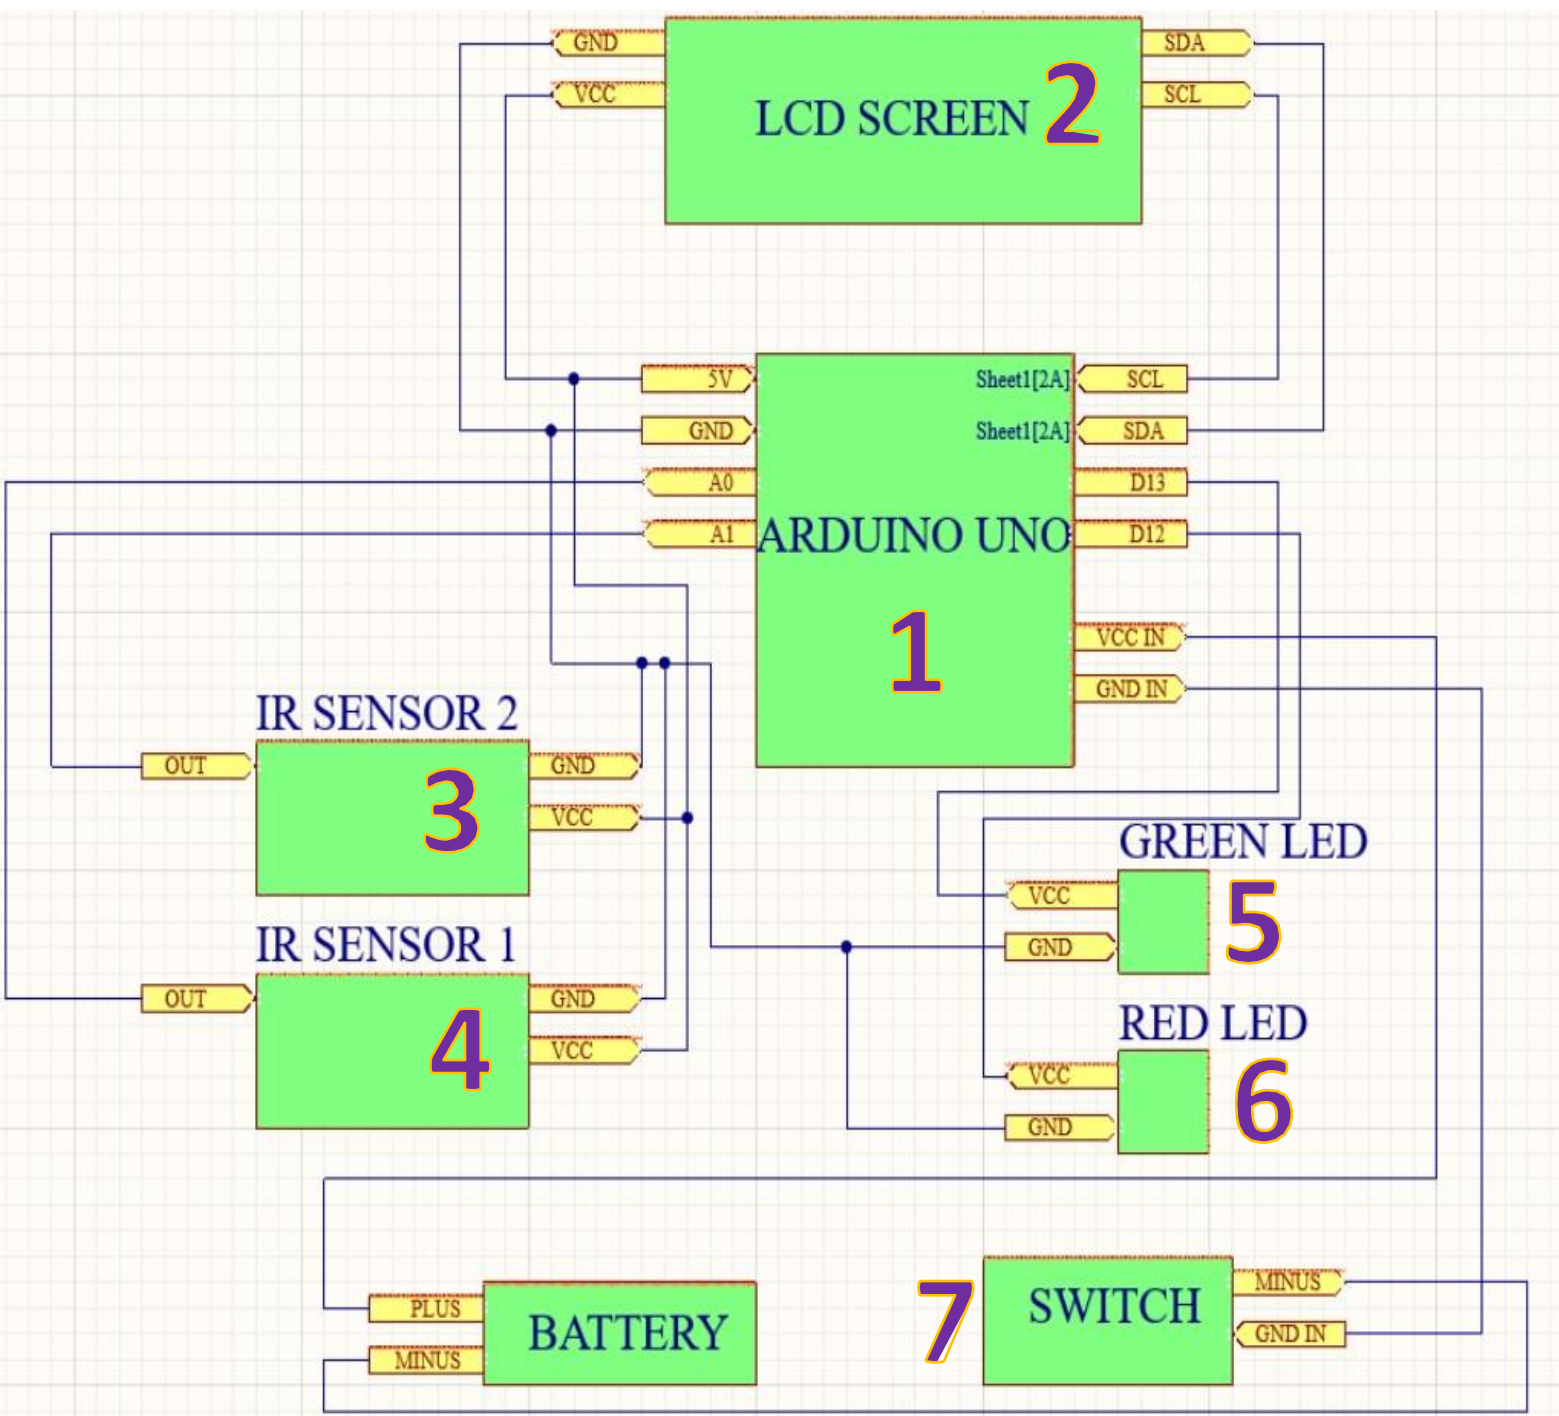
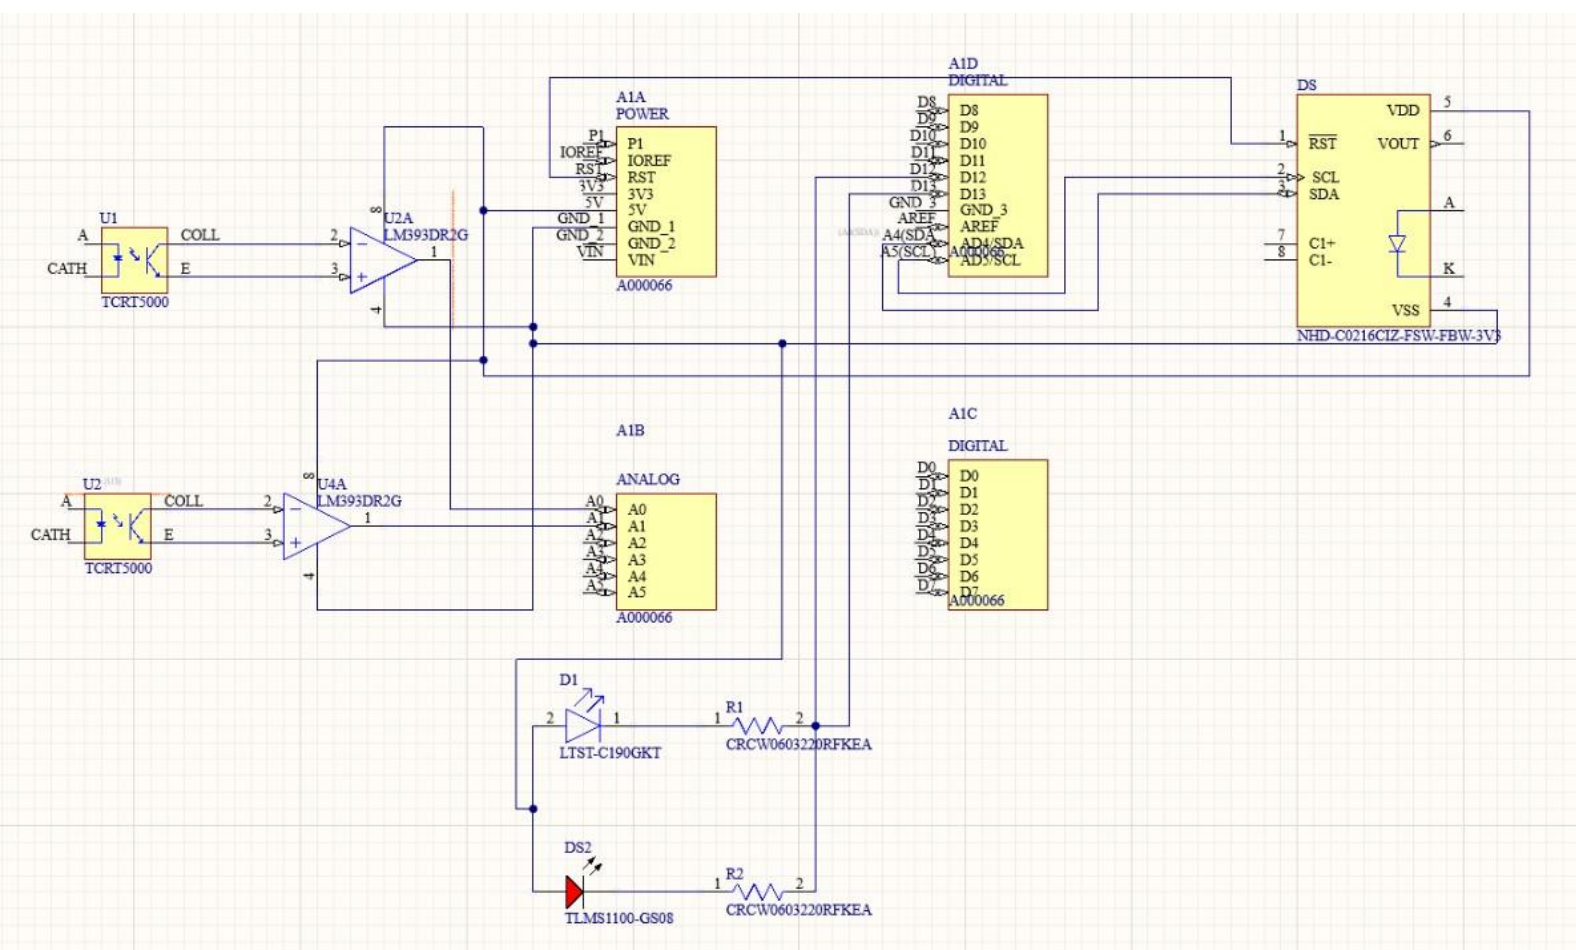

Fig.1. Hardware block diagram
Fig.2. Hardware electrical schematic.
- Block diagram [Fig.1. Hardware block diagram] shows how the actual device looks “on paper”. Here we have all components shown, which are connected to each other exactly as on the actual device. On the second figure [Fig.2. Hardware electrical schematic] we can observe the electrical schematic with respect to all components. All the detailed information about components can be found in the bibliography.